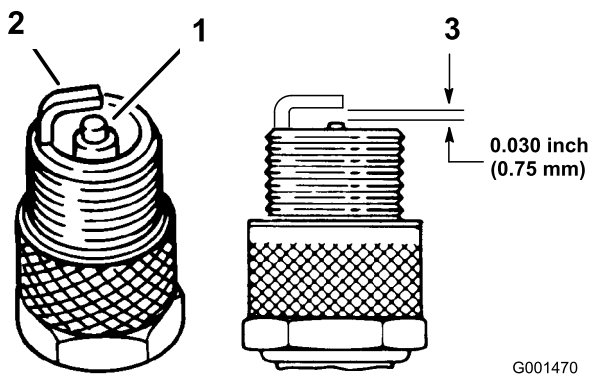

Figure 30
1. Look at the center of the spark plugs (Figure 30). If you see light brown or gray on the insulator, the engine is operating properly. A black coating on the insulator usually means that the air cleaner is dirty.
3. Check the gap between the center and side electrodes (Figure 30). Bend the side electrode (Figure 30) if the gap is not correct.
3. Connect the wires to the spark plugs (Figure 30).